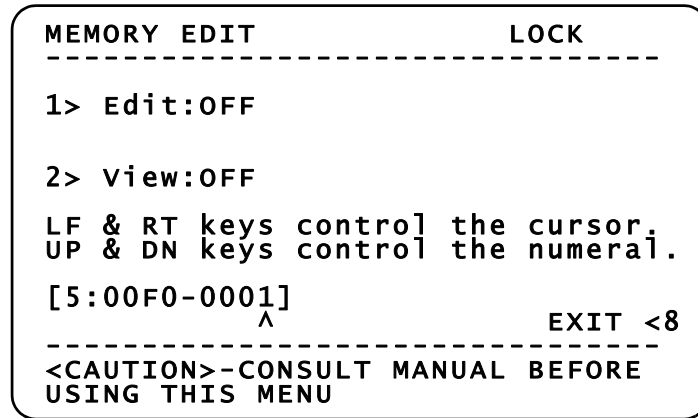

Figure 6 Address line after editing
- Use the control keys to change the fourth zero (0) to 1, and the line reads 1> Edit: 0001 (+0001).
6. Press the 1> Edit key to turn the edit function to OFF. The address line now reflects your editing as shown in Figure 6.